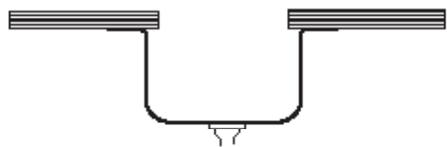

Figure 3
2. The countertop cutout can be customized based on your design preference. Ruvati recommends a 1/8" - 1/4" positive reveal on the two sides and back (Figure 3). You can also decide to go with a zero reveal (flush with the edge of the countertop cutout) or 1/4" negative reveal (countertop overhangs on top of the sink).